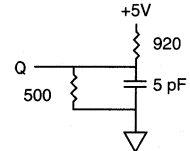

Fig. 2 OUTPUT LOAD EQUIVALENT
- t_{HZCE}, t_{HZWE} and t_{HZOE} are specified with C_L = 5pF as in Fig. 2. Transition is measured ±500mV from steady state voltage.